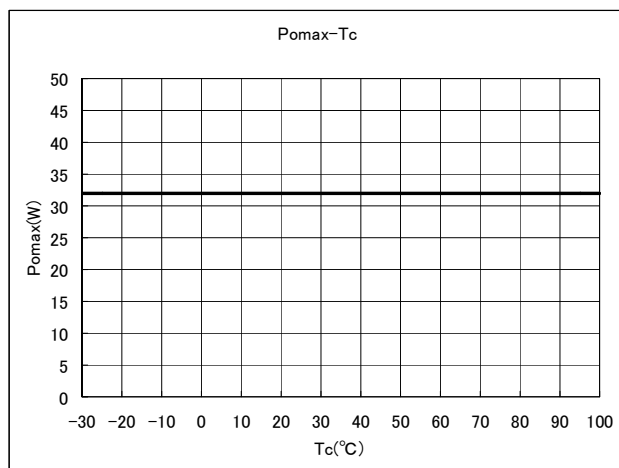
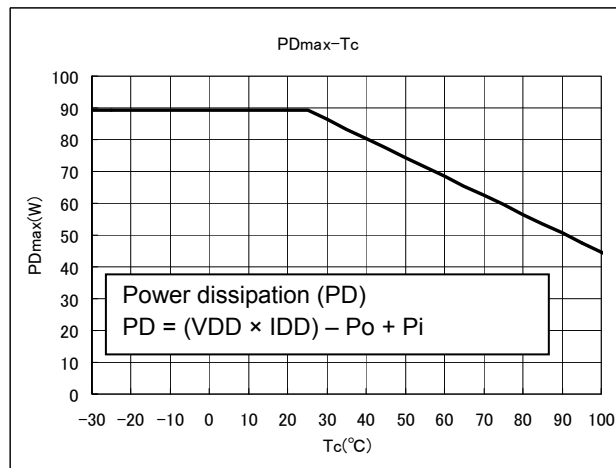

Figure 1 Pomax-Tc
Figure 2 PDmax-Tc
Note 2: The output power rating satisfies the range shown in Figures 1 and 2 according to the operating case temperature. Ensure that the device should be operated within the specified operating range. The figures below indicate the output power obtained 2 seconds after P_o is generated.
*When the device is used at $T_c = 100^\circ\text{C}$, the output power rating is 32 W as shown in Figure 1. When the power dissipation at $T_c = 100^\circ\text{C}$ exceeds the rating shown in Figure 2, the output derating is required to limit the dissipation within the specified range.